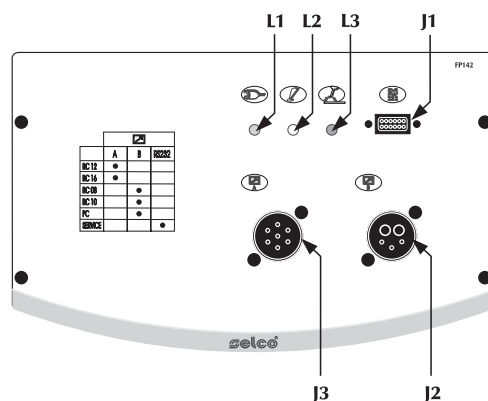

Fig.1
2.1.1 Främre kontrollpanel FP142 (Fig. 1)